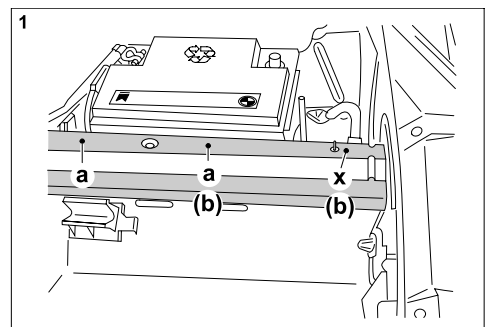

Fig. 1 : Holes in luggage compartment, right
- 4.) In the luggage compartment, drill three 14 mm  $\varnothing$  holes ( at " a " and " x " ) in the upper section of the frame side member on the right and left at the centre punch marks. Working through the centre and the rear hole ( near rear panel ), also drill through lower sections of frame side member at " b " with 14 mm  $\varnothing$  from above ( centre punch marks provided ); see Figs. 1, 2 and 8.